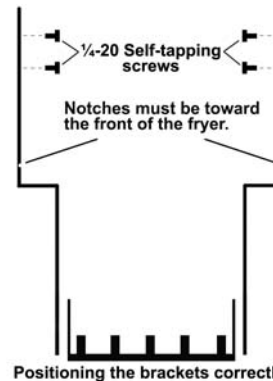

Figure 13: Install the gas manifold brackets. Ensure the notches are facing away from frypot.
3. Before installing the burner manifold support brackets, ensure the notch on each bracket is facing the front of fryer (away from the frypot), as shown in Figure 13. Note the position of the bends in the brackets.